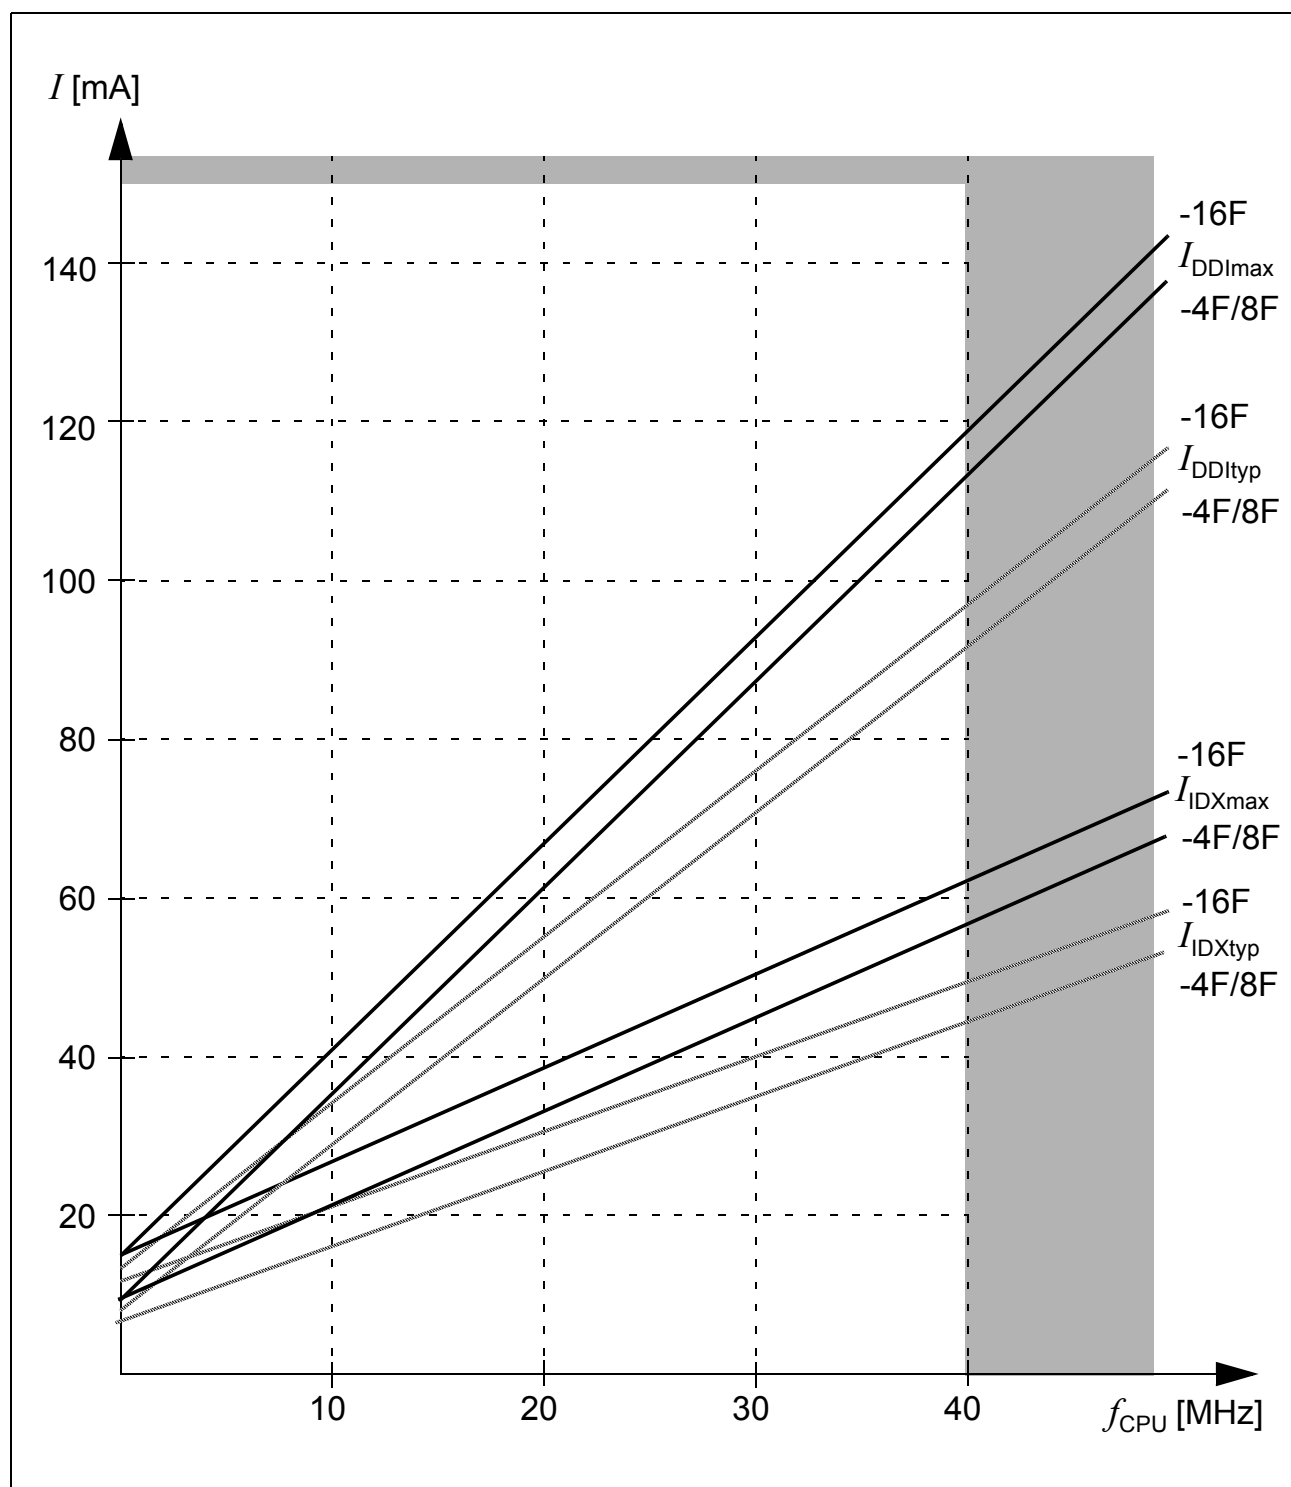

Figure 10 Supply/Idle Current as a Function of Operating Frequency
- 2) The supply current is a function of the operating frequency. This dependency is illustrated in Figure 10. These parameters are tested at $V_{DDI_{max}}$ and maximum CPU clock frequency with all outputs disconnected and all inputs at V_{IL} or V_{IH} .